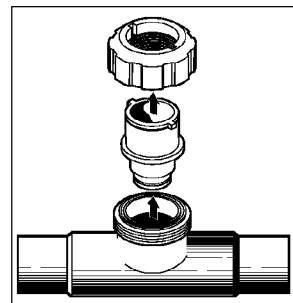

FIGURE 3
4. Remove coupling nut(s) from sensor housings on flow assembly. Then remove threaded insert(s) by gently pulling straight out (Figure 3). Insert is held in place by rubber "O" ring.